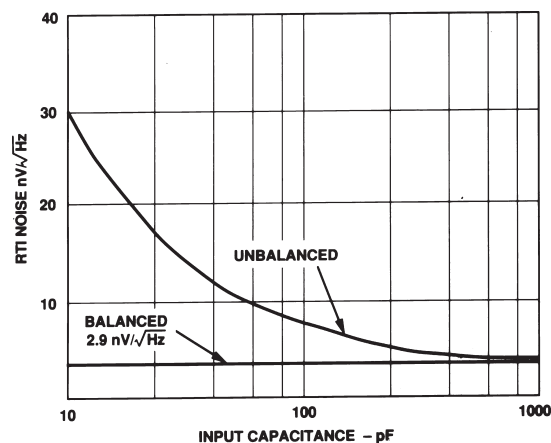

Figure 15. RTI Voltage Noise vs. Input Capacitance
As mentioned previously, it is good practice to balance the source impedances (both resistive and reactive) as seen by the inputs of the AD743. Balancing the resistive components will optimize dc performance over temperature because balancing will mitigate the effects of any bias current errors. Balancing input capacitance will minimize ac response errors due to the amplifier's input capacitance and, as shown in Figure 15, noise performance will be optimized. Figure 16 shows the required external components for noninverting (A) and inverting (B) configurations.